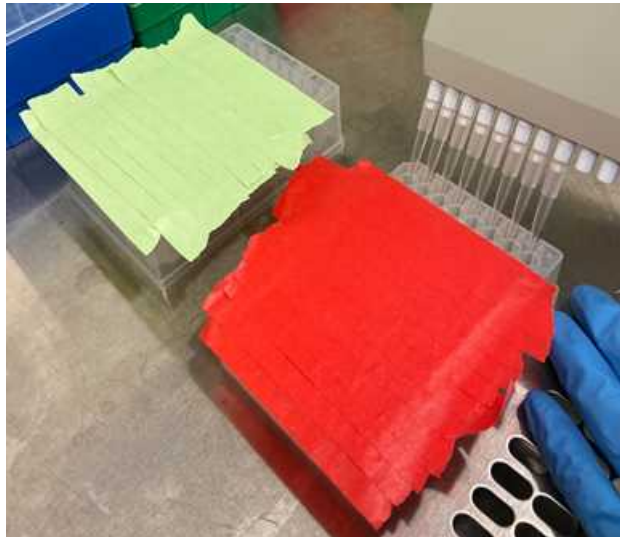

Figure 4. Transferring samples from SSP to SEP using a P300 multichannel pipette.
- Carefully, using a P300 multichannel pipette, transfer **200 µl** from each well of the SSP into each well of the SEP (Figure 4).